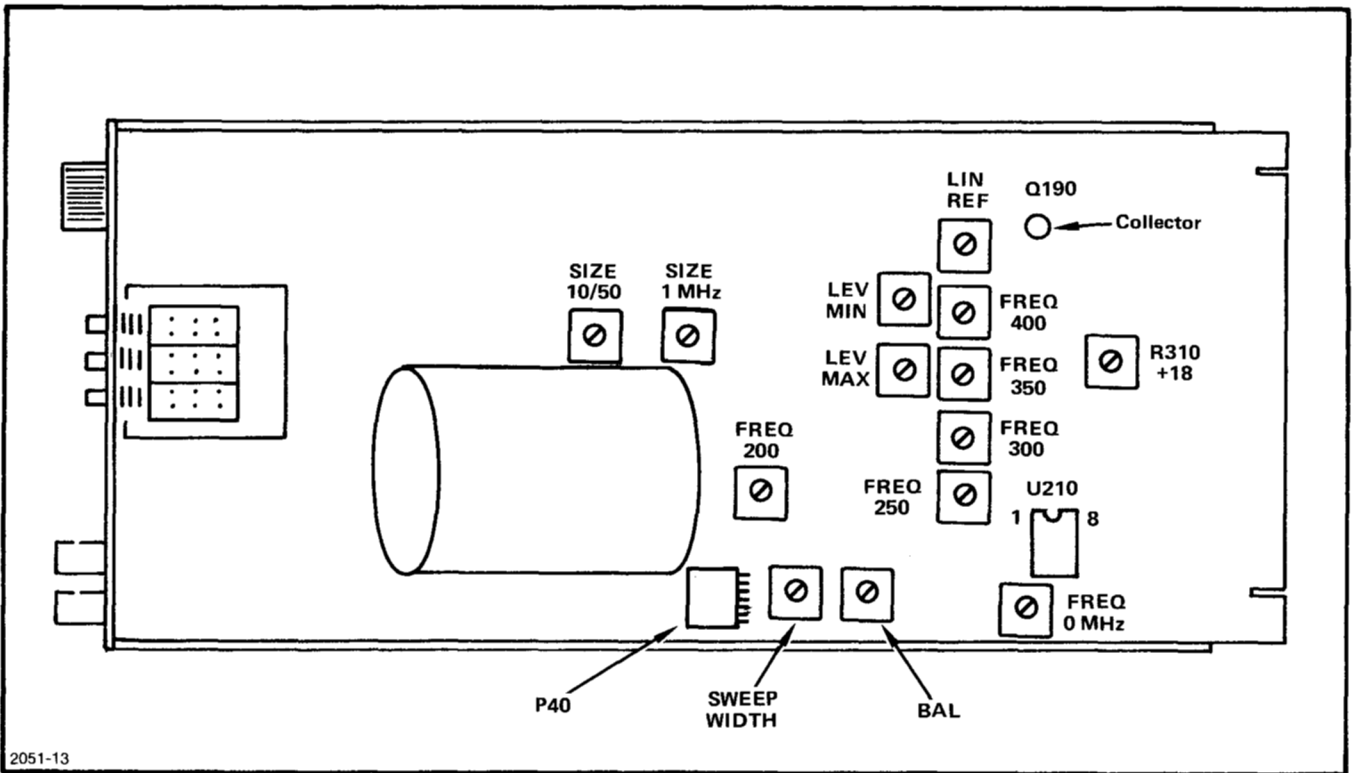

Figure 3-4. SW 503 adjustment and test points locations, right side.
b. Adjust R310 (+18; locate in Figure 3-4) for a reading of +18.00 V.
b. Connect the digital voltmeter between ground and U210A pin 1 (locate in Figure 3-4).
c. Adjust R185 (BAL) for a voltage of zero on the digital voltmeter. See Figure 3-4 for adjustment location.
e. Identify the 200 MHz marker, then reduce the frequency sweep with the MAX SWEEP WIDTH VAR control and adjust R235 (FREQ 200) to place the marker in the center of the oscilloscope display. See Figure 3-4 for adjustment location.
f. Set the CTR FREQ control to 50 MHz and adjust R225 (FREQ 0 MHz) to place the 50 MHz marker at the center of the oscilloscope display. See Figure 3-4 for adjustment location.
h. Set the CTR FREQ control to 350 MHz and connect a probe from the test oscilloscope to the junction of Q190 collector and CR196 cathode (locate in Figure 3-4). Adjust the test oscilloscope to display at least one cycle (2 ms/div), and adjust its vertical sensitivity for a full-screen display, dc-coupled (>2 V/div).
i. Momentarily disconnect the probe, or switch the test oscilloscope input to ground, and vertically position the trace to center screen; then reconnect the probe and adjust R195 (LIN REF) to center the displayed waveform voltage to about zero. See Figure 3-4 for adjustment location.
j. Set the CTR FREQ control to 250 MHz, and adjust R215 (FREQ 250) to place the marker at the center of the display. See Figure 3-4 for adjustment location.
k. Set the CTR FREQ to 300 MHz, 350 MHz, and 400 MHz respectively, and adjust the corresponding frequency adjustments (R210, R204, and R201) to place the correct marker at the center of the display. See Figure 3-4 for adjustment locations.
m. Adjust R180 (SWEEP WIDTH) so that both the 0 Hz and the 400 MHz markers are just visible at the ends of the sweep. See Figure 3-4 for adjustment location.
c. Adjust R240 (LEVEL MAX) for an output level of +10 dBm. See Figure 3-4 for adjustment location.
d. Set the CAL control fully counterclockwise, and adjust R245 (LEVEL MIN) for an output level of -10 dBm. See Figure 3-4 for adjustment location.